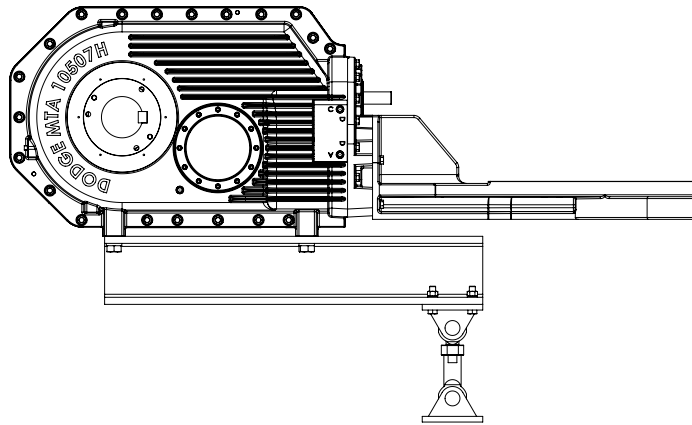

Figure 8 - Beam Mounted Correctly
2. Assemble the beam to the reducer, Figure 8 using the hardware specified in Table 8, tightening each bolt lightly.